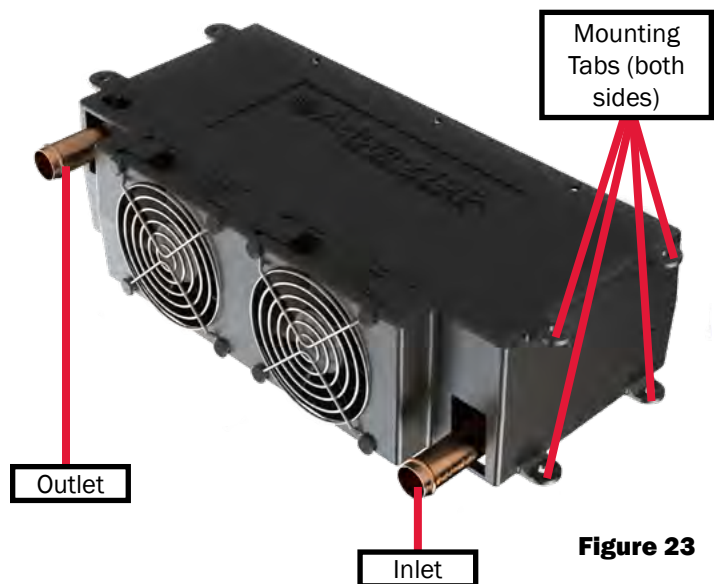

Figure 23
- The anti-freeze and water heating solution must flow in through the bottom of the heat exchanger, and out the top (reference Figure 23).
2. Mount each heat exchanger permanently into place. There are 4 tabs on both sides - see Figure 23.